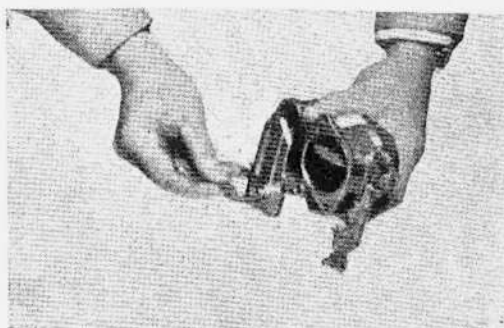

Figure 131
- (1) Assemble needle valve seat in air horn. Then fit on needle valve, valve spring, and valve push pin (Fig. 131).